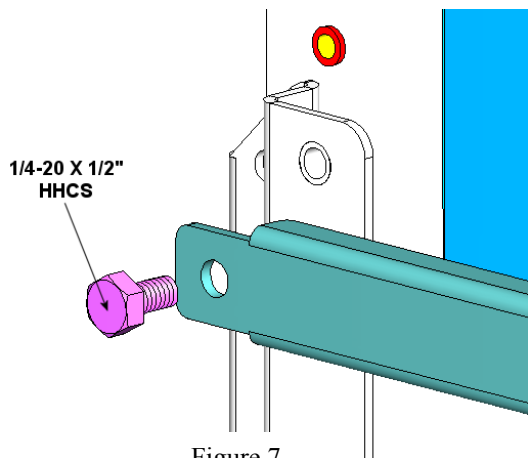
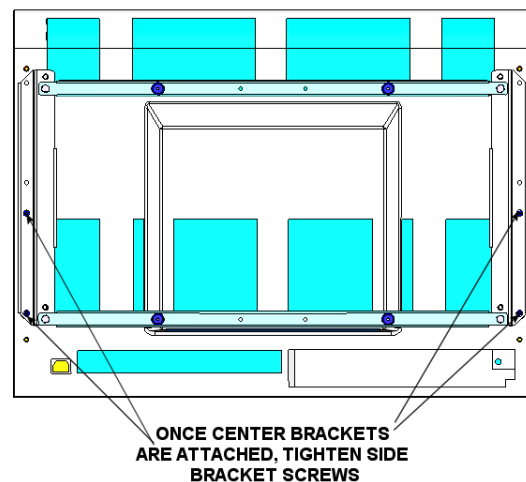

Figure 7
Figure 8
- Attach center brackets using the 1/4-20 hex head cap screws (See Figure 7). Once the center brackets have been attached, tighten all screws on the side brackets (See Figure 8).